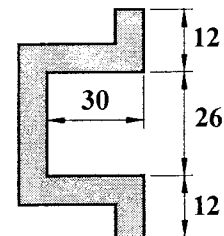

Fig. 2
4. Determine the location of the shear center for a prismatic beam with cross section shown in Fig. 2. The thickness of the walls of the beam is 4 mm. All dimensions in Fig. 2 are in mm. (5)